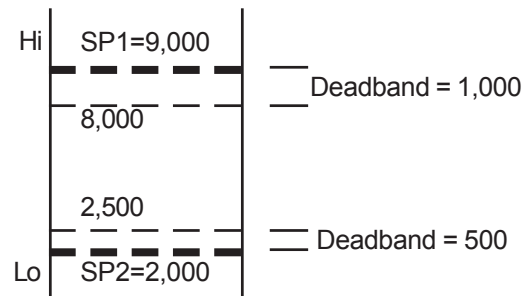

Figure 5-2. Setpoint Example
**Example:** See Figure 5-2. A vessel with a 9,300 lb capacity has setpoint 1 (*SP1*) set at 9,000 lbs gross weight. The *Hi/Lo* function is set to *Hi* and the deadband (*Dead*) is set at 1,000 lbs. When the contents exceed 9,000 lbs, the setpoint energizes, activating a pump to remove material from the vessel. The pump continues to operate until the setpoint de-energizes at a material weight of 8,000 lbs (9,000 lbs minus the 1,000 lb deadband).